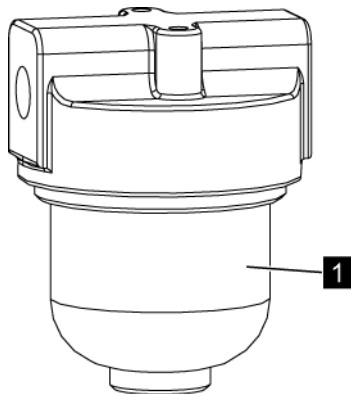

Fig. 224: Filter bowl
8. ➔ Screw the filter bowl (Fig. 224/1) back in.